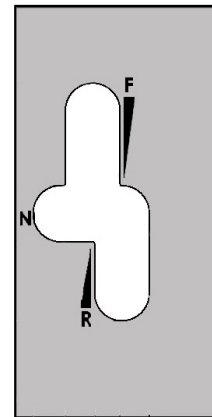

FIG. 4.18-3
3. To move forward, slowly push the hydrostatic lever forward. The farther the control lever is moved, the faster the sprayer will travel and the RPM 's will increase (fig. 4.18-3). To stop, slowly pull the lever to the "N" neutral position.